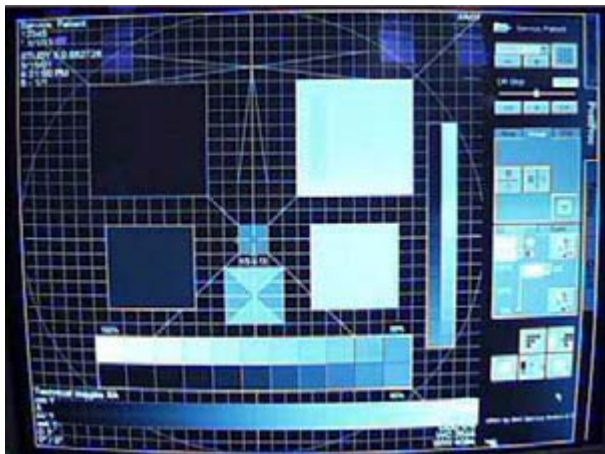

Fig. 3: Image1
- Select the test pattern (Fig. 3 / p. 10).